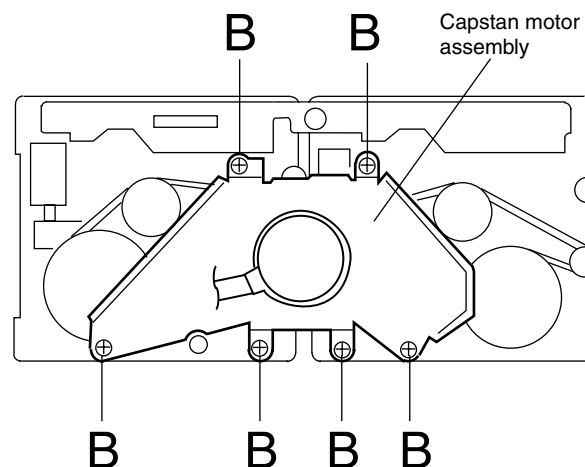

Fig.5
■ Removing the capstan motor assembly (See Fig.5 to 7)
- 1.Remove the six screws "B" retaining capstan motor assembly (See Fig. 5).